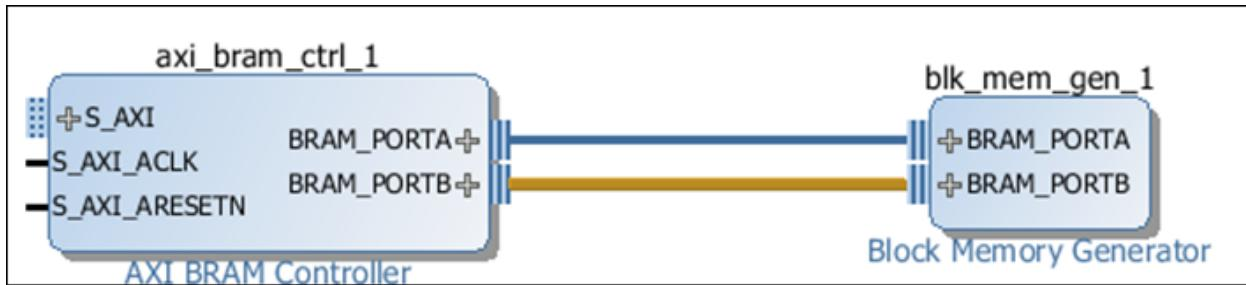

Figure 12: Connected AXI BRAM Controller and Block Memory Generator
4. Connect the Block Memory Core to the AXI4 BRAM Controller by clicking the connection point and dragging the line between the IP (Figure 12).